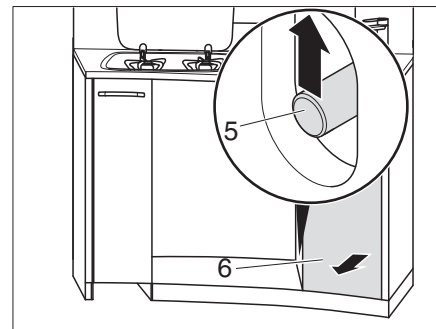

Fig. 126 Unlocking high kitchen drawers
- Grasp through the opening and slide the push rod (Fig. 126,5) upwards.